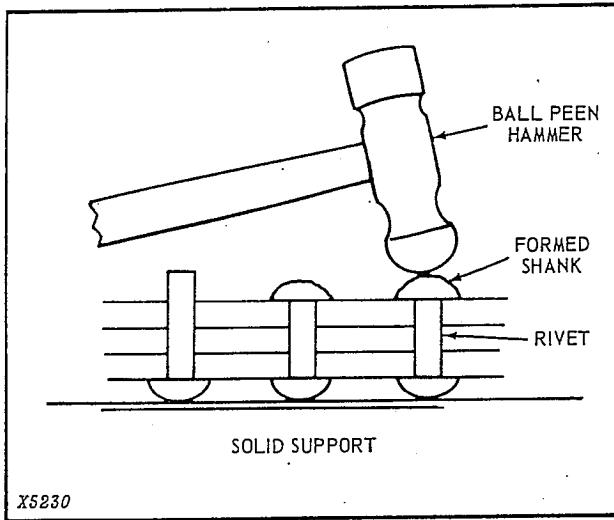

Fig. 177 — Peening the Second Head of a Rivet
*peen hammer* (Fig. 177). While doing this, the rivet head must be "bucked" or pressed against something solid as the second head is formed; otherwise, it will not grip securely.